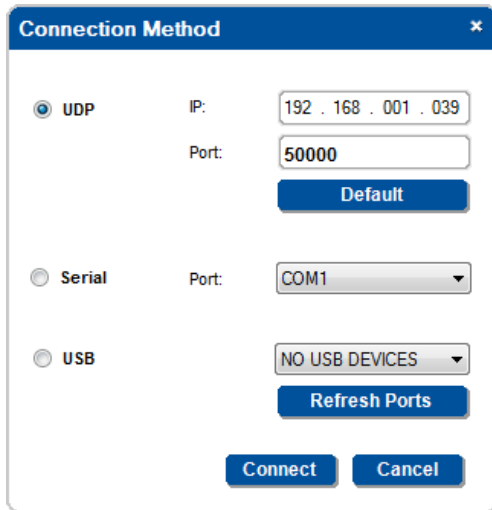
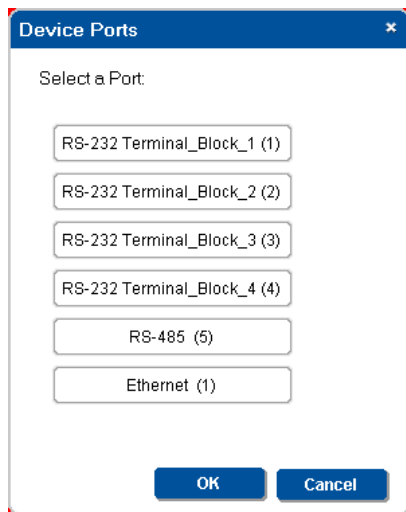

Figure 66: Testing Serial Commands –Connecting the PC to the Room Controller
Figure 67: Testing Serial Commands –Selecting a Device Port
- If the connection type between the RC and the PC was not yet established, the connection window will appear and you should select the connection method (for example, the **RC-74DL** is connected to the PC via the Ethernet) and click Connect (see Figure 66) after that the Device Ports window appears (see Figure 67)
- If the RC is connected, the **Device Ports** window appears and you will need to select the port to which the auxiliary device is connected (see Figure 67)